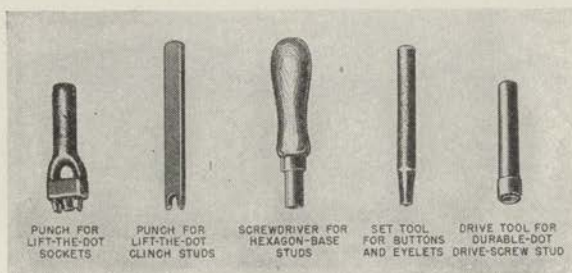

FIGURE 83.—Hand tools for attaching fasteners.
l. Fastener tools.—Fasteners can all be attached by hand punches and screw drivers, such as those shown in figure 83. Bench and pedal machines are used for production work.